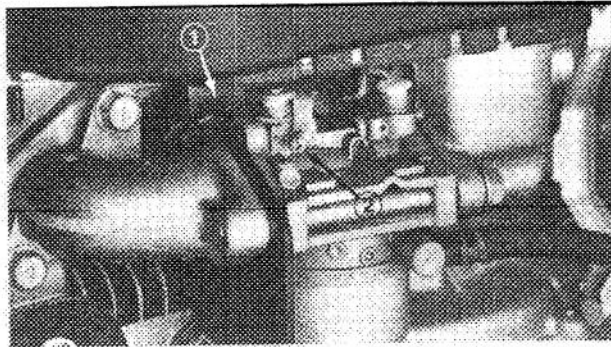

Figure 20
1. Idle Mixture Screw (Fig. 20) — Close screw by gently rotating it clockwise.
2. Rotate — open — the screw 1-1/8 turns counter-clockwise (Fig. 20).